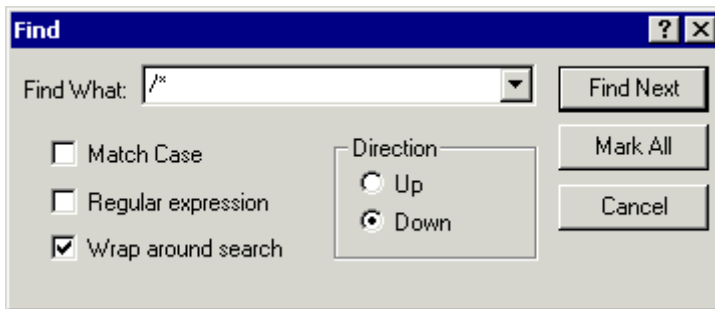

Figure 2-18. Find Dialog Box: Locating Occurrences of /\*
2. From the **Edit** menu, choose **Find** to open the **Find** dialog box, shown in Figure 2-18.